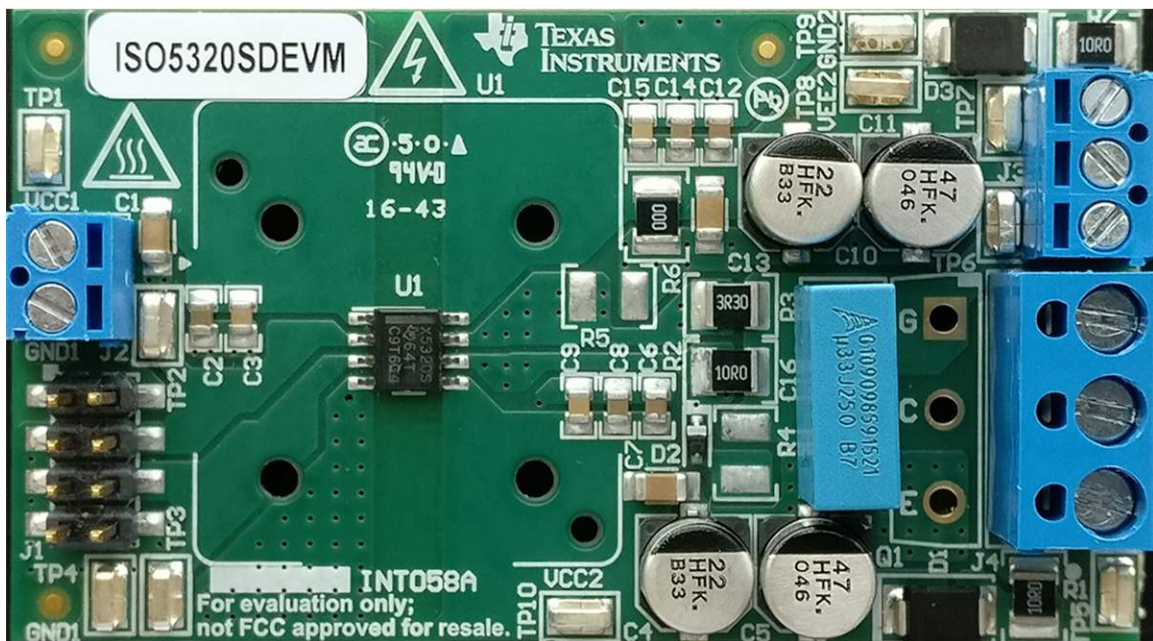

Figure 9. UCC5320SD EVM
The UCC53x0 device is an isolated gate driver with several important features. The printed-circuit board (PCB) and EVM, as shown in Figure 9, have been designed to support the UCC53x0S, UCC53x0M, UCC53x0E family of devices and to allow the user to evaluate basic operation and features. The left side of the PCB contains the interface to the input and control functions of the integrated circuit (IC). The right side of the PCB has been designed to interface to an IGBT. No electrical connections exist between the right and left sides of the PCB.